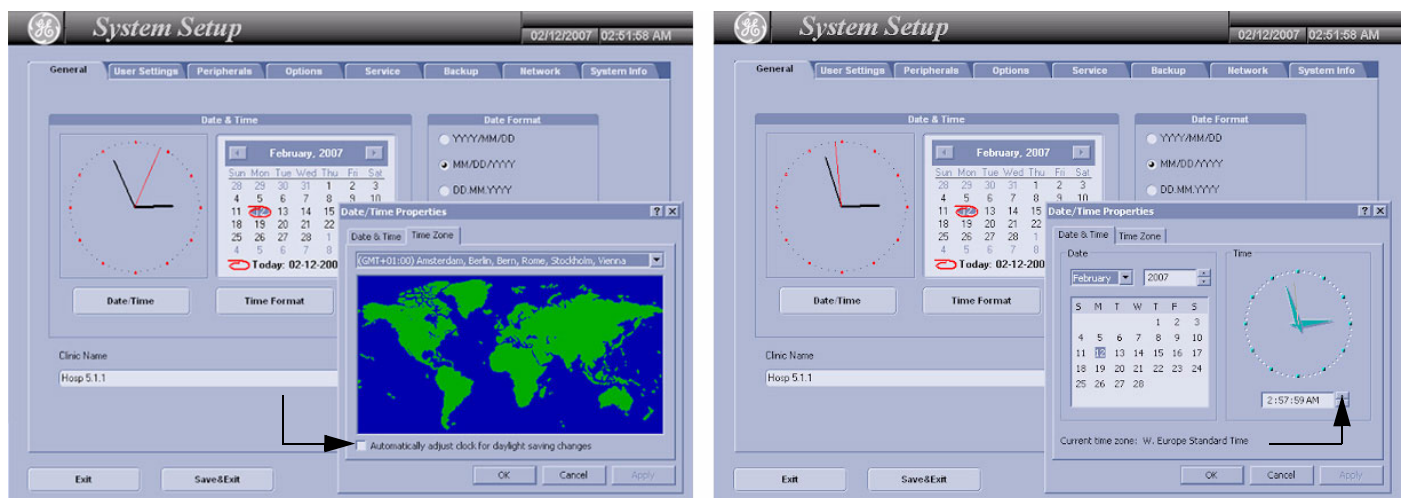

Figure 7-29 Uncheck check box / adjust time
- 6.) Uncheck "Automatically adjust clock for daylight saving changes" check box and then click APPLY (see: left image of Figure 7-29 below).
- 8.) Set the proper time for the system's location and then click OK (right image of Figure 7-29 above).